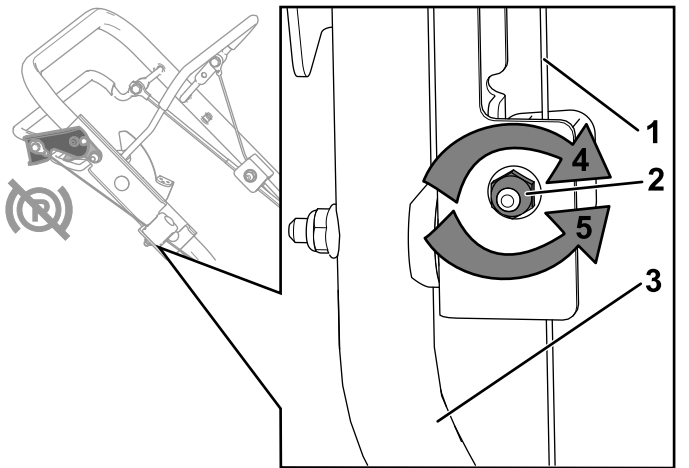

Figure 51
- Turn the adjustment nut counterclockwise to loosen the cable adjustment (Figure 51).
3. Adjust the tension on the cable (Figure 51) by pulling or pushing the cable jacket and holding that position.